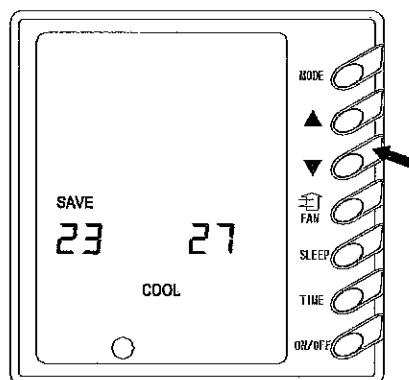

Fig 9
8) Energy Saving Setting (Figure 9)
After the above settings are completed, the system shall display "SAVE". Now the set temperature shall not exceed the temperature range of the energy saving setting before. For example, the lower cooling limit is set as 23 °C and the upper cooling limit is set as 27°C for the energy saving temperature setting in Figure 9, so the cooling temperature can only be selected from the range of 23 °C to 27°C by using the remote controller or the wire controller later.